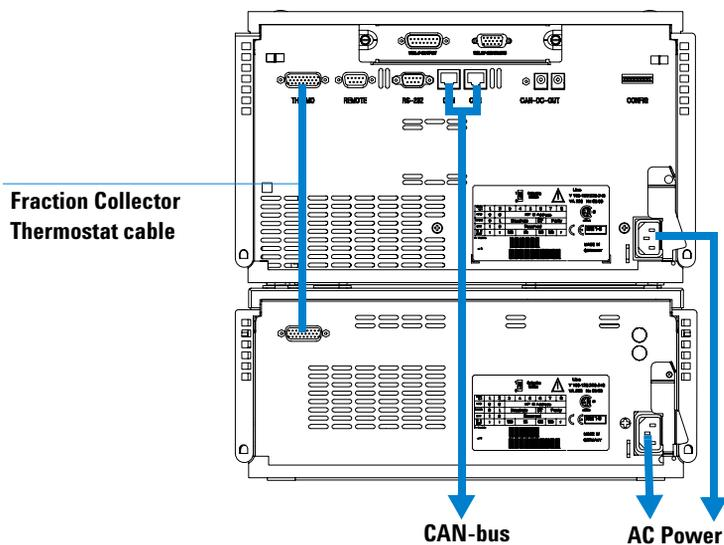

Figure 6 Connections at the Rear of the Thermostatted Fraction Collector
- 14 Connect the cable between the micro-scale fraction collector/spotter and the thermostat, see Figure 6 on page 27.